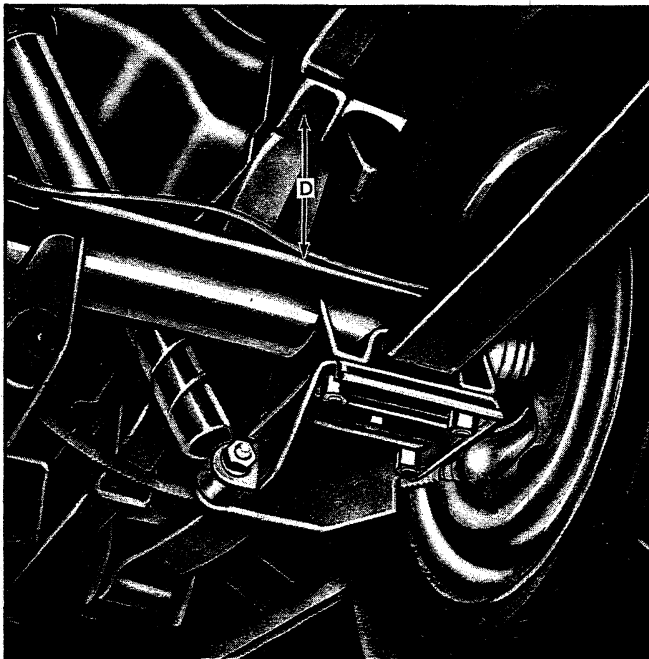

Fig. 7—Rear Riding Height (Chevy II)
4. On Chevy II models, measure riding height as the distance from lower surface of bumper support bracket to top of axle housing (fig. 7).